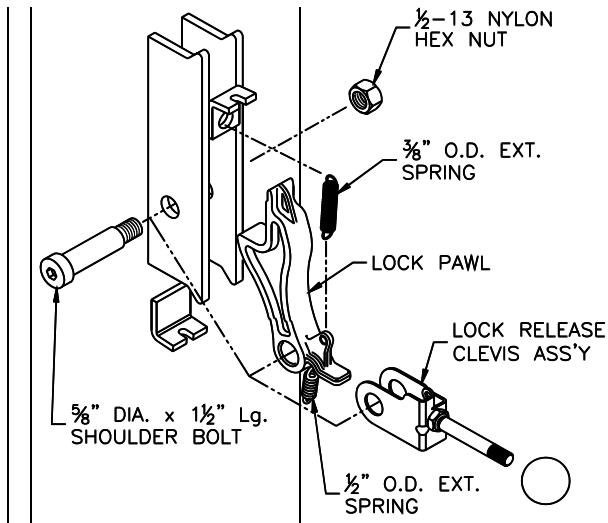

Fig 2a – Locking Pawl Assembly
- 4) Attach 1/2" O.D. Extension Spring to hole located on bottom side of both supplied Lock Pawls, **Fig 2a**. Install Lock Pawl and Lock Release Clevis on both columns using 5/8" diameter x 1 1/2" lg shoulder bolt and 1/2"-13 nylon lock nut. Attach 3/8" O.D. Extension Spring to upper hole in locking pawl and other end to hole in bracket welded to column as shown in **Fig 2a & 2b**.